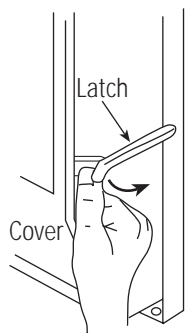

Figure 22: Removing the control panel cover
3. Release the latch on the right side of the control panel cover and lift the cover off to the right. See Figure 22, left.